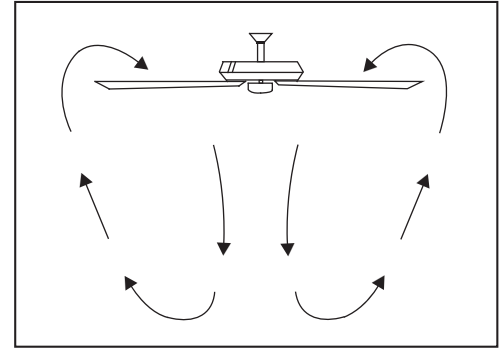

Figure 25
**Warm weather** - (Counter-Clockwise direction) A downward air flow creates a cooling effect. (Fig. 25) This allows you to set your air conditioner on a higher setting without affecting your comfort.